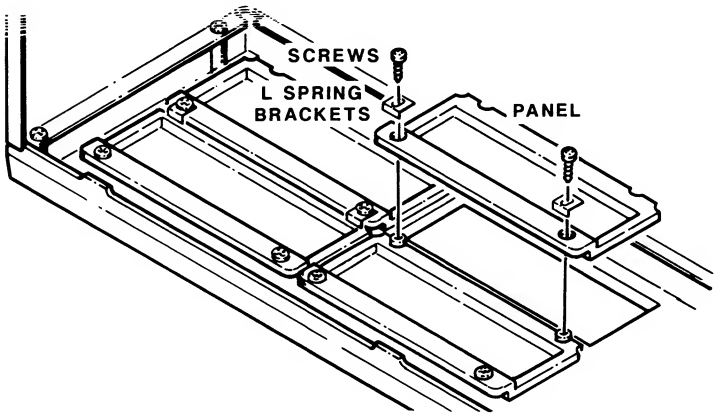

Figure 5-19. Removing the Front Panel Insert
13. Before you replace the cover, refer to Figure 5-19 and remove the screws and L spring brackets that secure the upper right panel insert. Remove the panel. Reinstall the screws and L spring brackets to secure the lower panel insert to the cover.